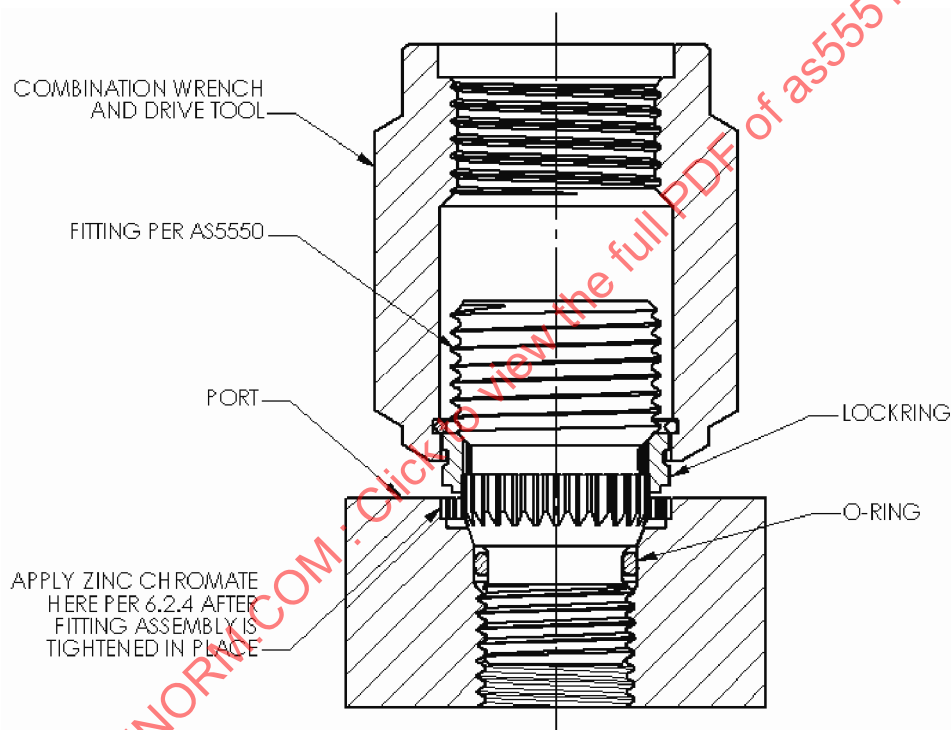

FIGURE 5 - Torquing Fitting Assembly
- 6.2.3 Using the applicable combination wrench and drive tool in Table 1B, engage the serrations of the tool with the external serrations of the locking per Figure 5. Place a torque wrench of the proper size over the hex of the wrench and apply a torque equal to the minimum value specified in Table 1A. Note the relationship of the locking serrations with respect to the prebroached serrations in the port. If they match, proceed to 6.2.4. If the locking serrations do not match the prebroached serrations in the port, continue to slowly torque toward the maximum value allowed in Table 1A until the serrations match. This will normally take between 3° and 8° of turning, the maximum value need not be reached if the serrations align themselves prior to that value. Do not exceed maximum torque values.